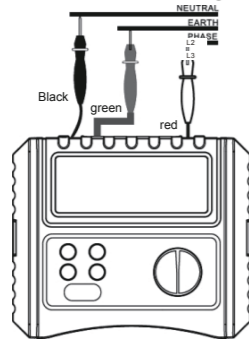

Figure 6
**XI. Detecting Phase Sequence(See Figure 6)**
- 3) Then connect three test leads into three-phase AC system (black to L1, green to L2, red to L3, refer to Figure 6 for details), after that, the Tester will indicate the phase sequence and open phase result on LCD.
- 2) Insert three connectors of one-plug test leads or three separate test leads into three input terminals of the Tester (red to red, green to green, black to black). (Refer to Figure 6, 7, 8)